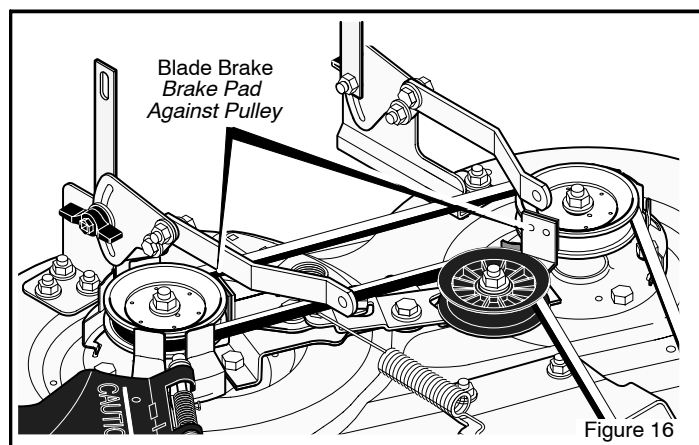

Figure 16
8. Move the **blade rotation control** to the **DISENGAGE position**. Stop the engine. Disconnect the wire from the spark plug. Check the operation of the **blade brake**. Rotate the pulleys with your hand. Make sure the **brake pads** are pressed tightly against the pulleys (Figure 16).